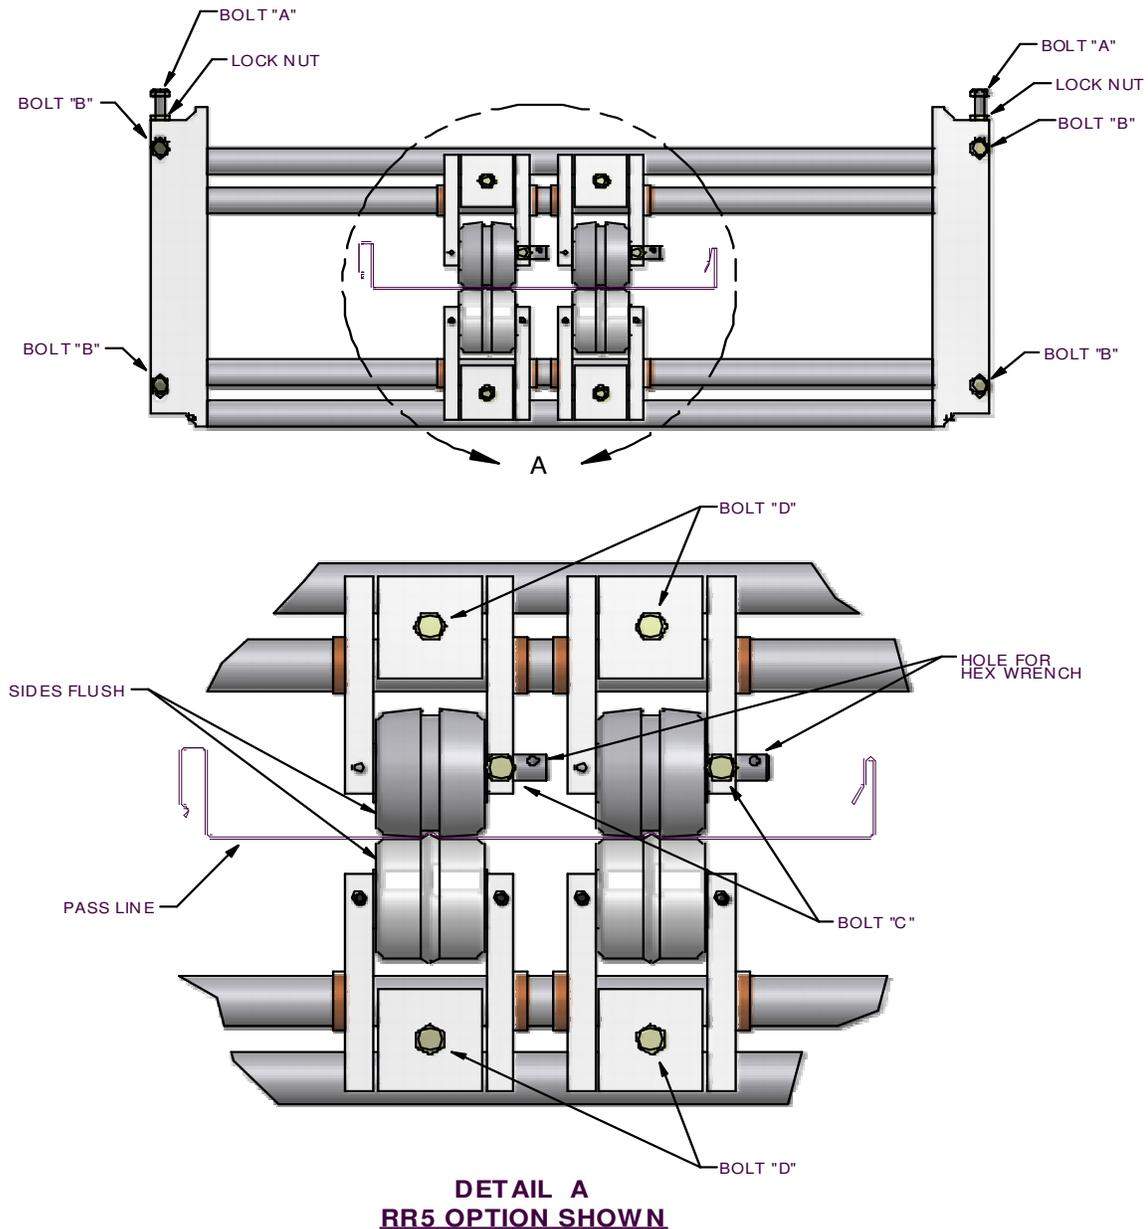

Figure 49: Bead Roller Width Change
7. Loosen the slide lock bolts on the top and bottom bead assemblies (Figure 49) and slide each bottom and top roll assembly left or right to center them on the 4” and 8” marks on the panel.
10. To set or change the gap between top and bottom beads, loosen the "C" bolt on both top rollers (Figure 49).